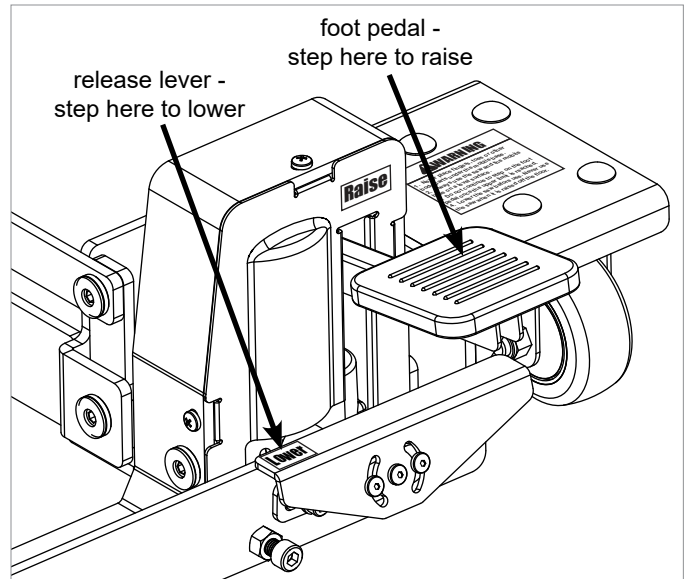

Fig. 3
1. To move your saw with the mobile base, step down on the foot pedal several times to raise the saw off the floor and onto the wheels (see Fig. 3). Do not raise the saw higher than necessary to move it. Instead, raise the saw only enough to provide sufficient ground clearance. Do not continue to step on the foot pedal once the upper limit is reached.
3. Step down on the left side of the release lever to lower the saw back to the floor (see Fig. 3).